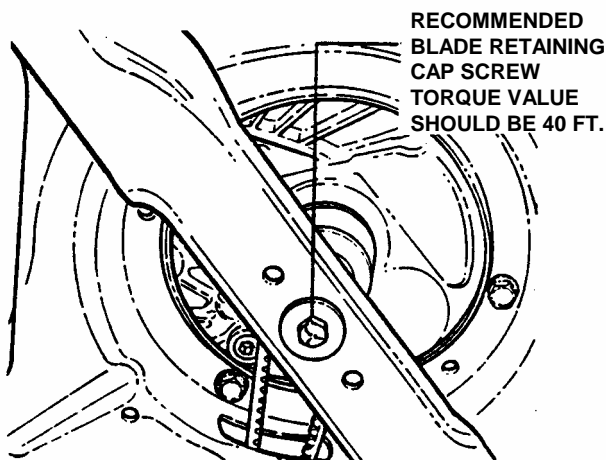

FIGURE 3.4
2. Tilt mower up on its rear wheels for access to the blade cap screw. Do not tilt mower with spark plug or carburetor down. See Figure 3.4.
3. Check torque of blade retaining cap screw. Recommended torque should be 40 ft. lbs. See Figure 3.4.